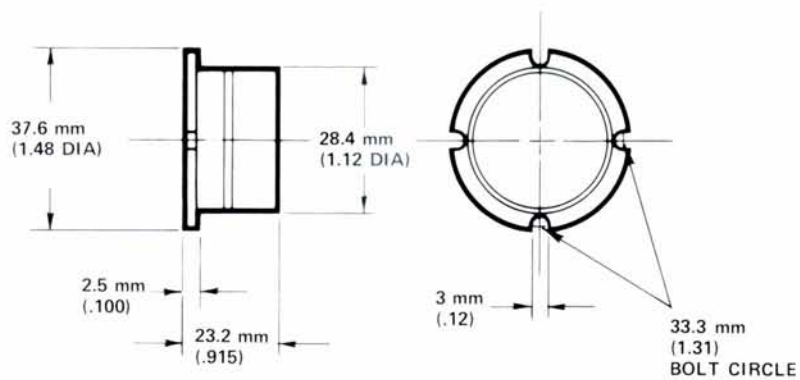

Figure 2-20. 10703A Retroreflector Specifications
- c. 10703A Retroreflector Specifications, see *Figure 2-20*.